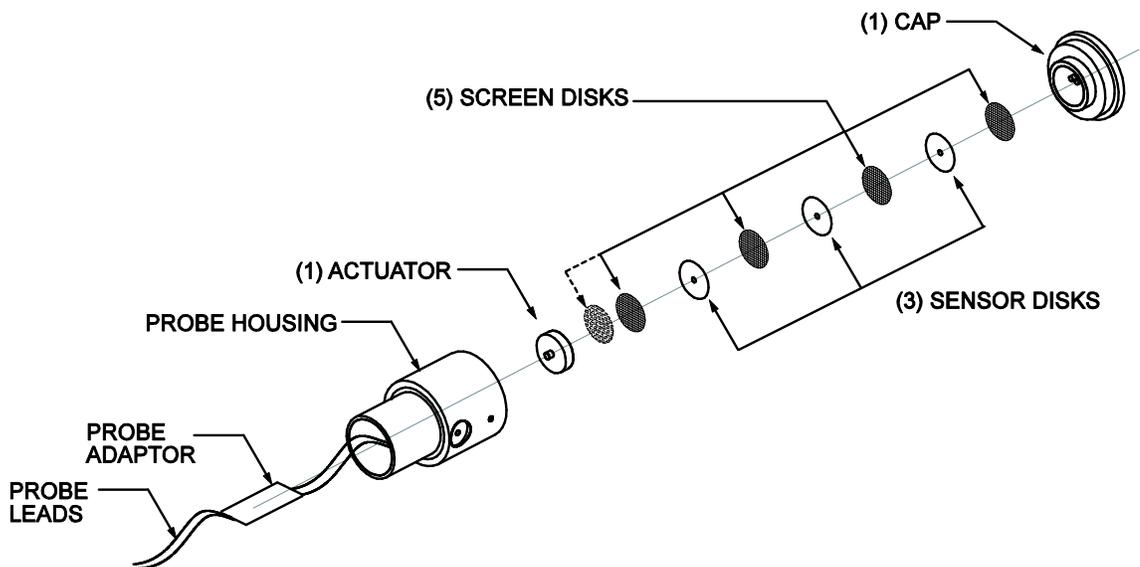

Figure 3-11
The replacement sensor package consists of 8 disks: 5 screen disks and 3 sensor disks as shown in Figure 3-11. The replacement package includes all removable parts: probe cap, sensor elements, and actuator. Replacement sensor elements can also be purchased on their own.
6. Reassemble the switch. Carefully alternate the 4 screens and 3 sensor disks in the cap as shown in Figure 3-11. Place the actuator on top of the top screen. The actuator has a small point in the center of one side that must face the probe housing as shown. Hold the probe housing vertically and screw the cap finger-tight into the bottom of the housing.